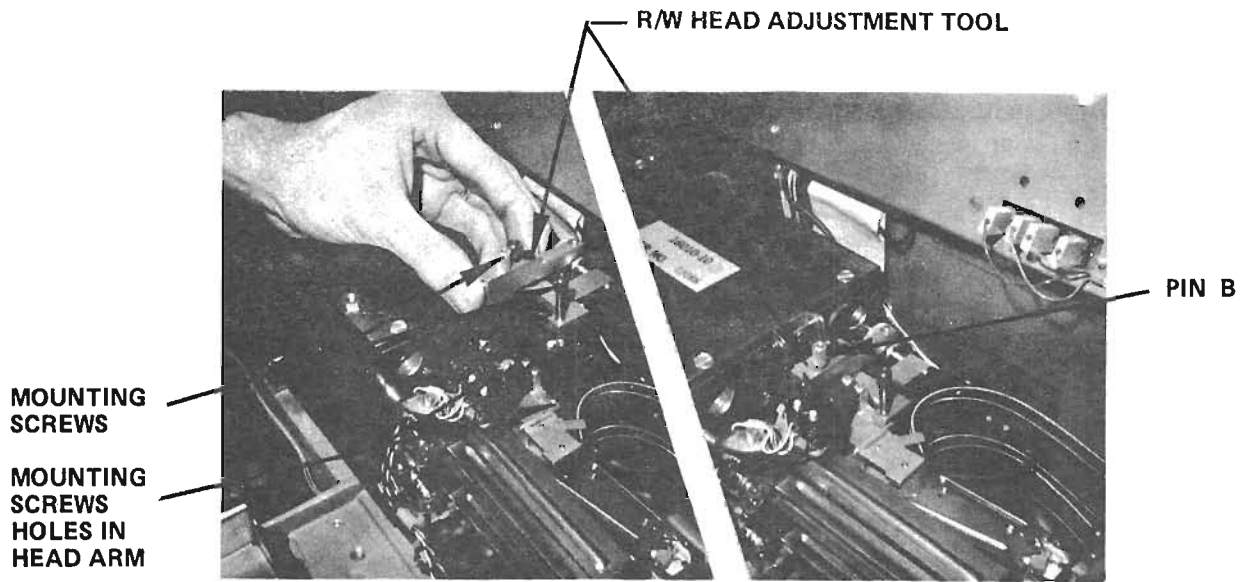
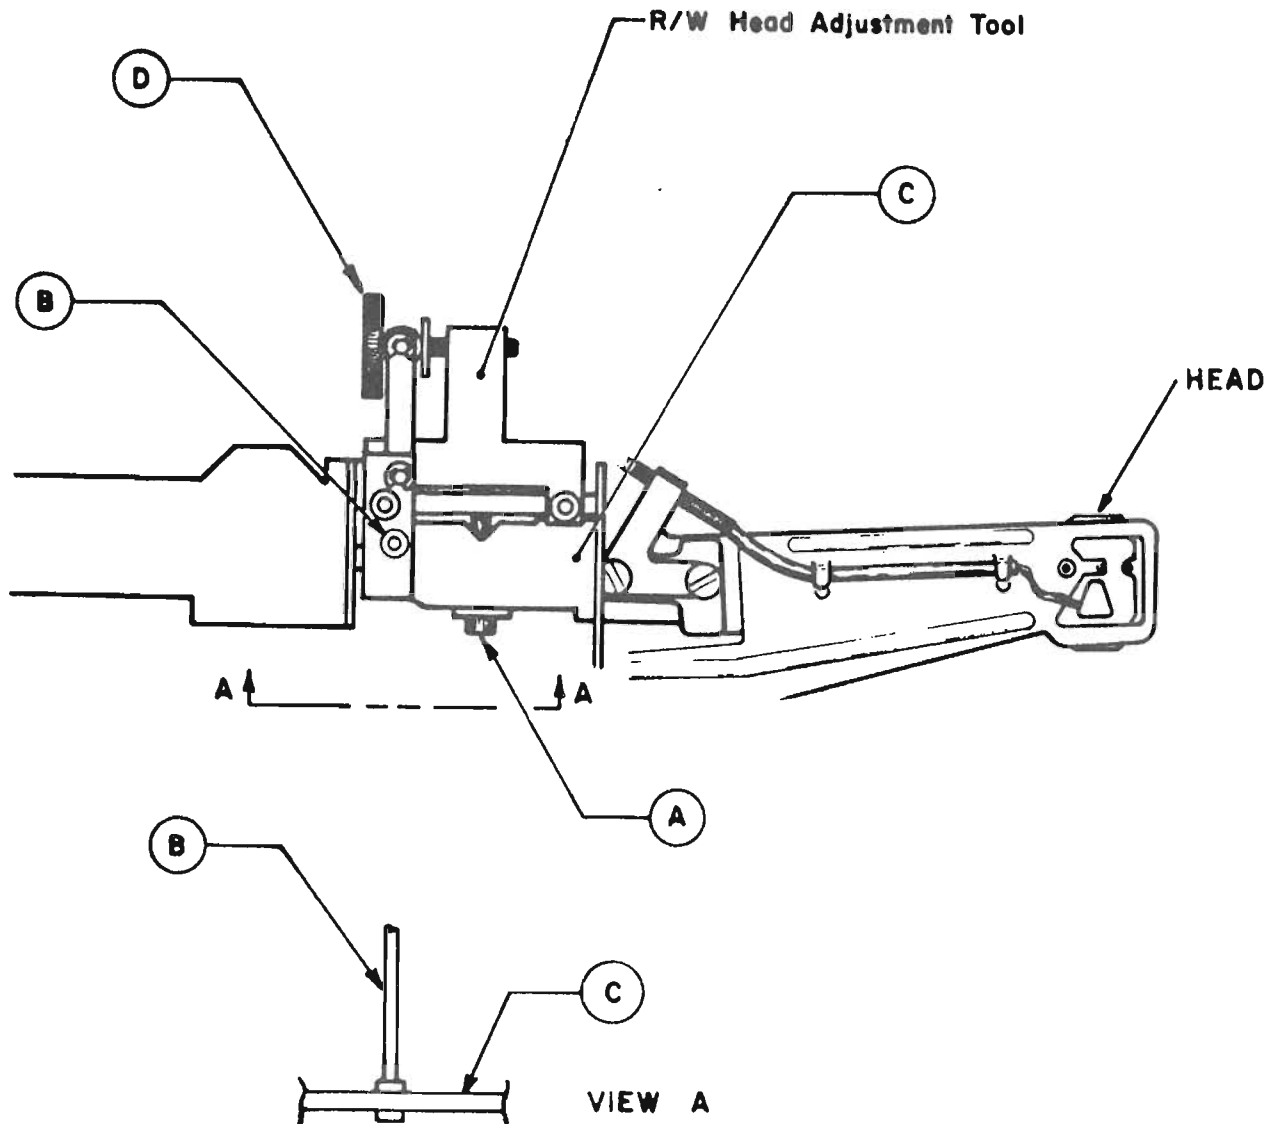

FIGURE 4-22 INSTALL R/W HEAD ADJUSTMENT TOOL
FIGURE 4-23 R/W HEAD ADJUSTMENT
- a) Install the R/W head adjustment tool as shown in Figure 4-22. Refer to Figure 4-23 during the remainder of the R/W head alignment.
- c) Engage the large end of pin B in the large hole in head mounting plate (see view A of Figure 4-23).
- c) Engage the large end of pin B in the large hole in the selected head mounting plate C (see view A of Figure 4-23).